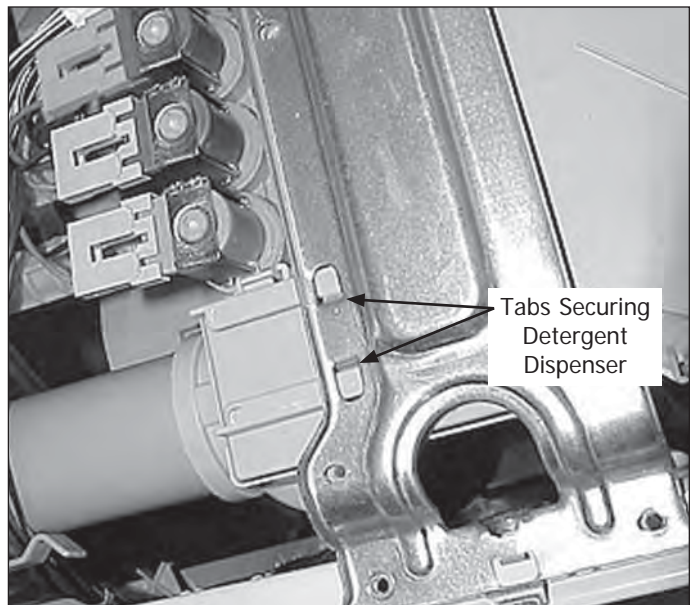

Figure 4-62.
4. Raise the brace to disengage the tabs on the brace from the side panels and slide the brace backward to release the tabs on the brace from the slot in the detergent dispenser housing. (See Figure 4-62)